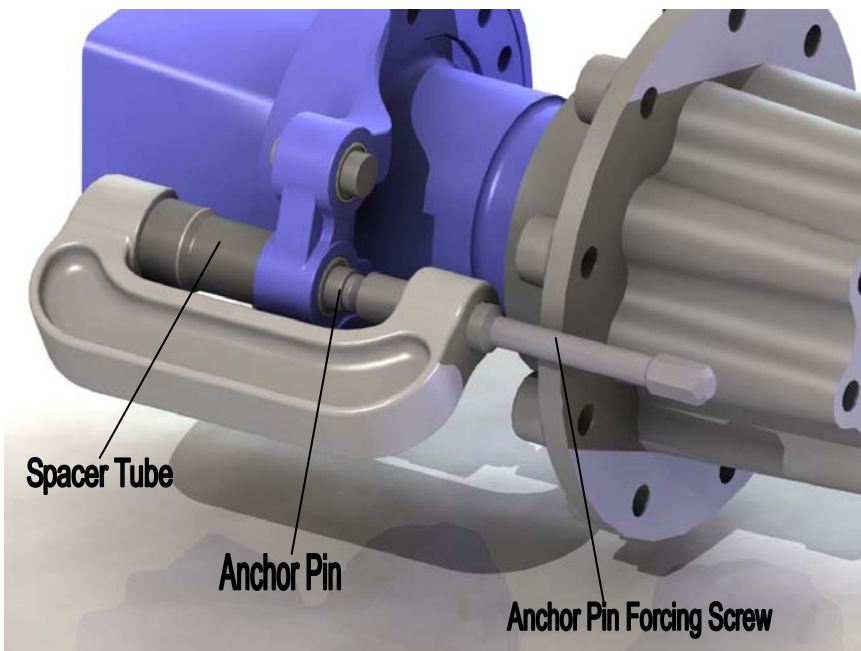

Figure 2
2. Position the tool as shown in Figure 2. **\*CAUTION: the spacer tube (Item #9) MUST be concentric with the anchor pin to prevent interference when removing.** Advance the forcing screw until the anchor pin is removed.